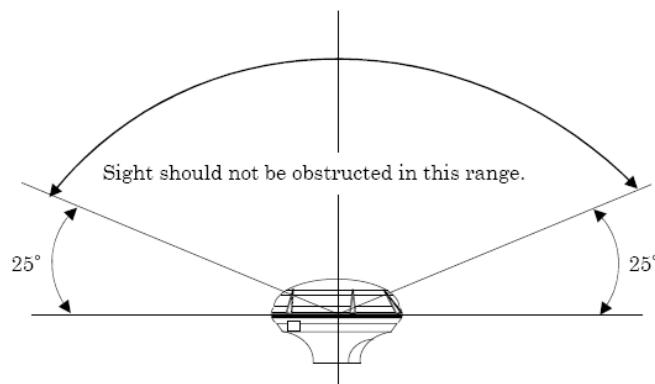
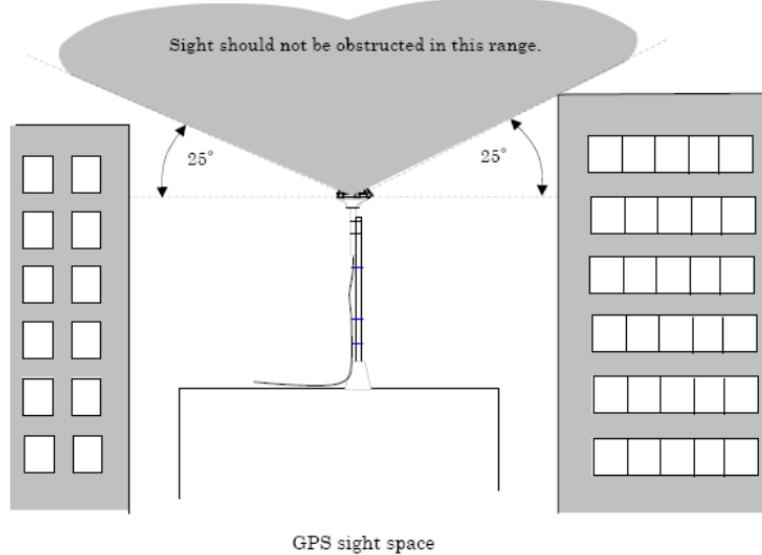

Figure 3.9-4 GPS sight range
Figure 3.9-5 GPS sight space
- ♦ Note2: There shall be no obstruction at the place of 25 degrees or more from the horizontal surface at the center (excluding antenna), as shown in Figure 3.9-4 and Figure 3.9-5.